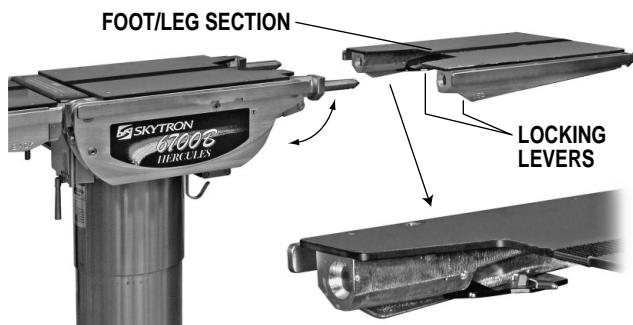

Figure 2-20. Leg Section Removal
- a. The Leg Section and the Back Section on the 6700B Hercules tables are both removable. See figure 2-20 (Leg Section shown).